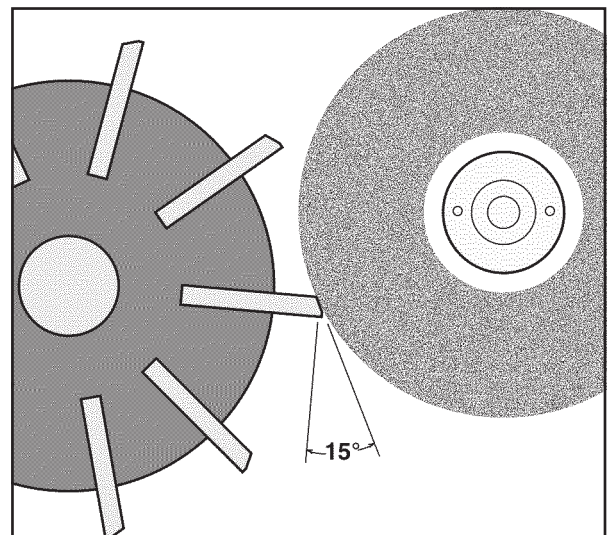

Figure 4.2 Relief angle
4.0.2 When the blade is just touching the wheel, rotate the reel blade below center on the grinding wheel, adjust the grinding wheel in with the horizontal adjusting screw 2-4 turns until the grinding wheel is touching the reel blade at the correct angle of relief, then lock with locking knob. This should set the relief at about 15° (Figure 4.2). With this adjustment,